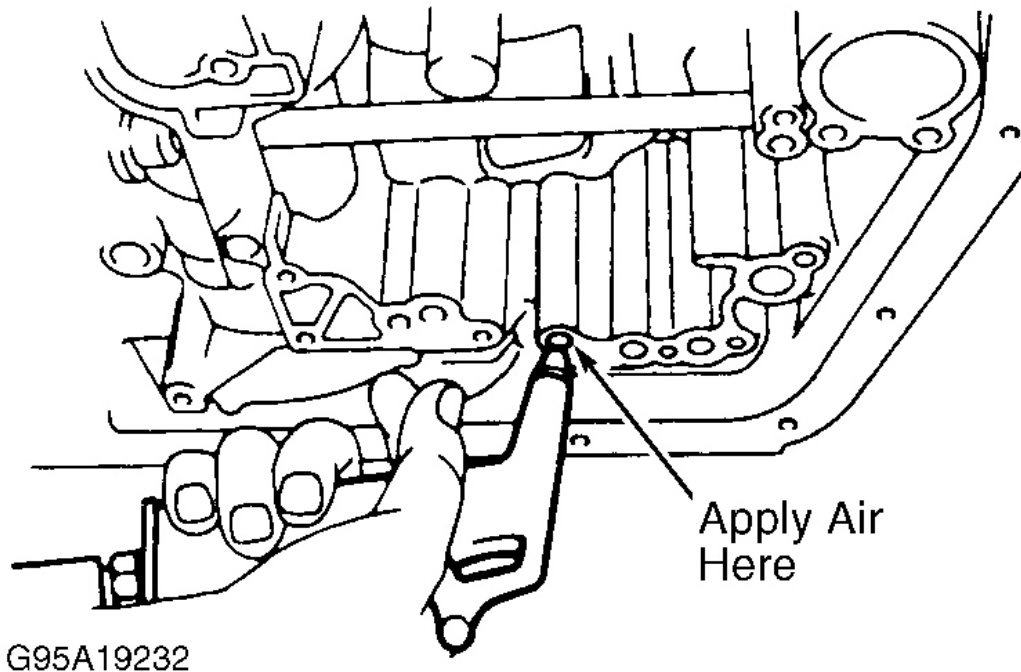

Fig. 14: Removing 1st & Reverse Piston
15. Remove snap ring. Remove return spring from case. Remove 1st and reverse brake piston with compressed air. See **Fig. 14**. Remove "O" rings from piston.
2. Select thrust washers that will ensure correct side gear backlash. Thrust washers are available in thicknesses of .037-.047" (.95-1.20 mm) in .20" (5.0 mm) increments. Install thrust washers and side gears in differential case. See **Fig. 14**. If possible, install same size thrust washers on both sides. Install pinion gears and pinion shaft. Check side gear backlash to ensure proper thrust washers are used.